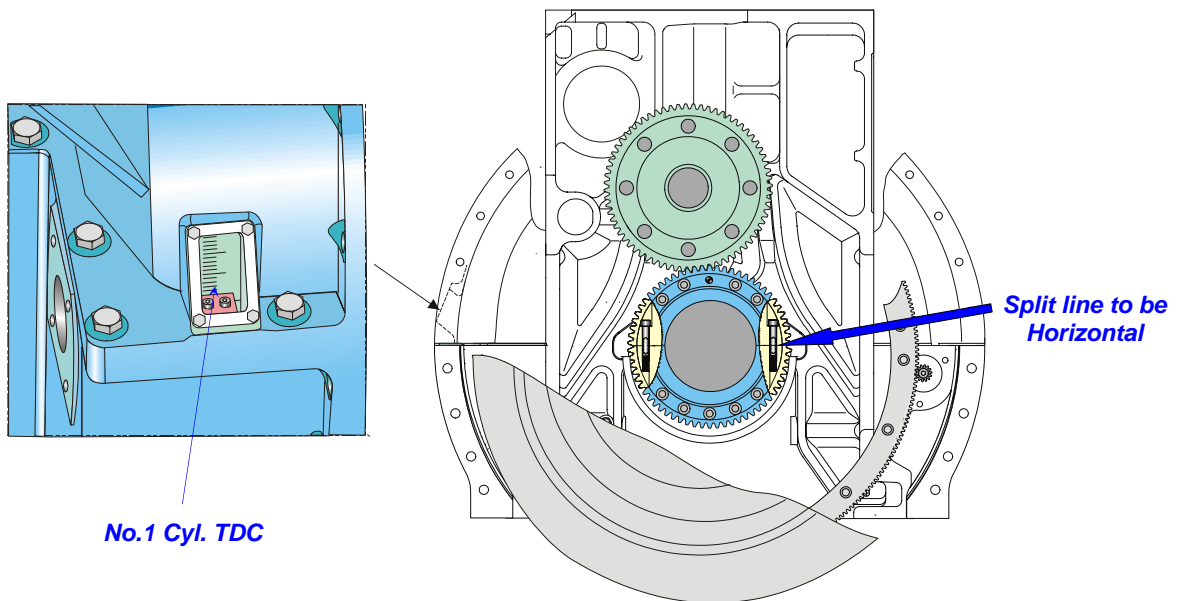

Fig.1 Check TDC mark on flywheel and crankshaft (플라이휠 및 크랭크 샤프트에 있는 상사점 마킹 확인)
1. Turn the crankshaft so that cylinder no.1 shall be in TDC (top dead center). Check TDC mark on flywheel and crankshaft. In this case, the split line of the two part gears on crankshaft also should be horizontal as shown in fig. 1.